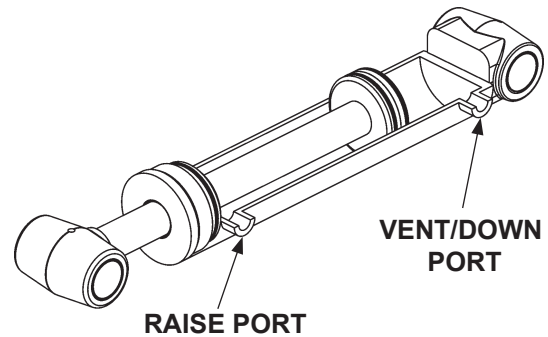

FIG. 36-1
5. Check the hydraulic cylinder. With the platform on the ground, remove the breather plug or vent line from the vent/down port of the cylinder (FIG. 36-1). Raise the platform even with the bed. Allow pump motor to run two seconds more while you watch for hydraulic fluid at the vent/down port. A few drops of hydraulic fluid escaping the vent/down port is normal; however, if it streams from the vent/down port, piston seals are worn. Replace seals.